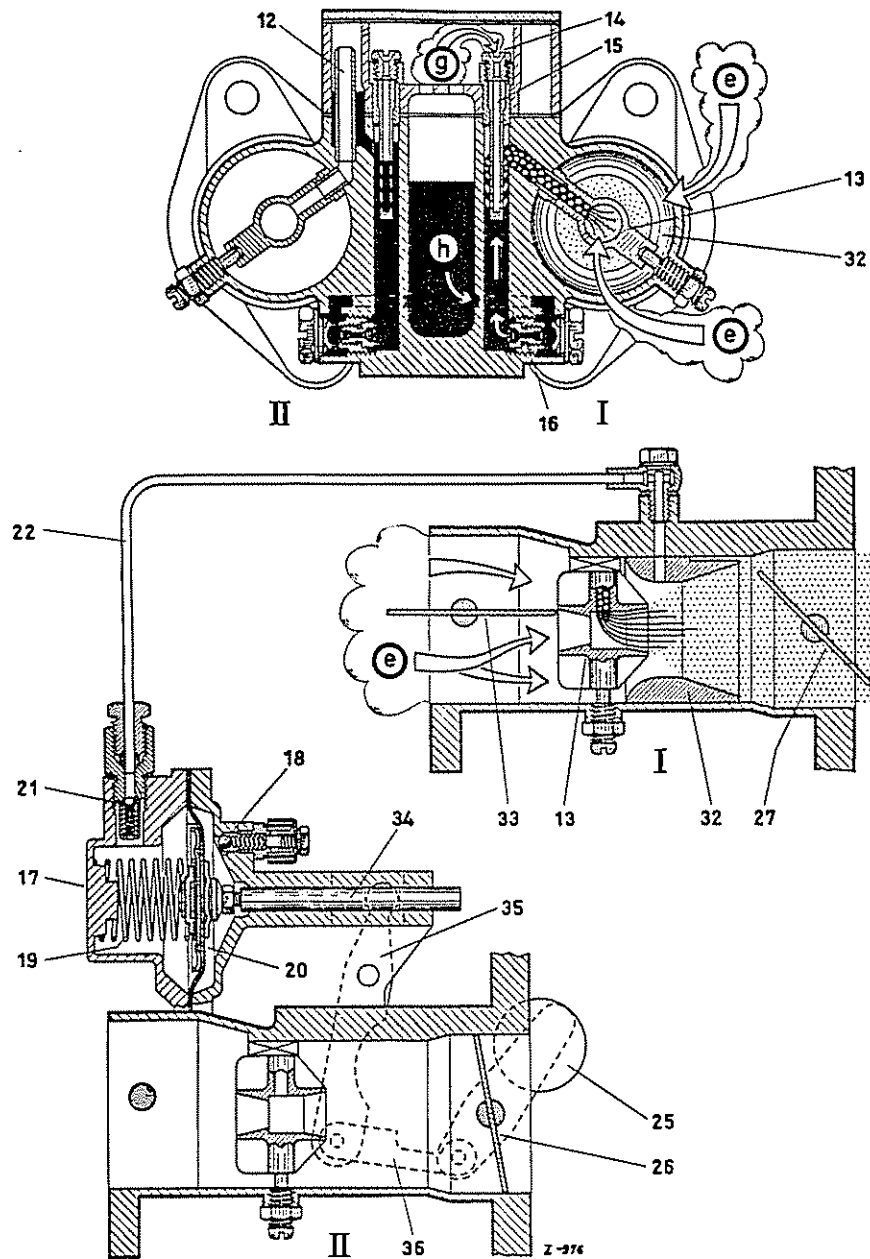

Fig. 07-0/45
- e) In the sand-cast carburetor the overflow control tube is screwed to the carburetor housing, whereas in the die-cast carburetor it is located inside the carburetor (see Figs. 07-0/31 and 07-0/44).
When the throttle valve (27) of stage 1 is opened, the partial vacuum begins to have an effect on the outlet tube of the diffuser. As a result, fuel is drawn from the cylindrical cavity via the outlet tube of the diffuser and is mixed with the air entering through the air inlet branch. Compensating air enters through the air correction jet (14) in progressively larger amounts, passes through the bores of the mixing tube (15) and combines with the fuel flowing through the main jet to form a mixture. Air enrichment increases with increasing engine speed, thus preventing overenrichment of the mixture (Fig. 07-0/45).